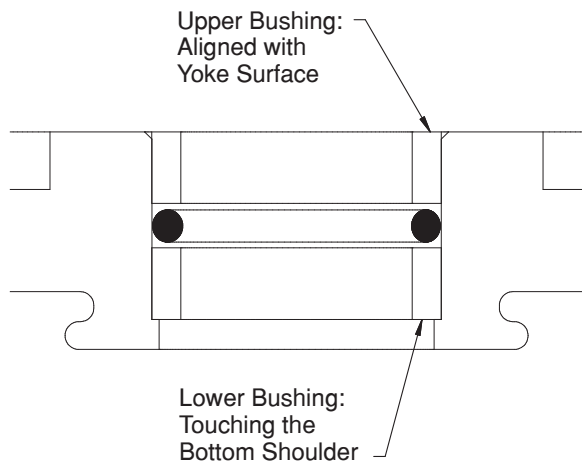

Figure 4 – Assembling the Stem Bushings
- Assure that all internal parts are completely clean before starting to assemble. Apply the proper lubricant to the cylinder wall. If the bushings have been removed, lubricate the external side of the replacement bushings. Press the new lower stem bushing into the yoke until it touches the bottom shoulder. Press the upper stem bushing until it is aligned with the top of the yoke (see Figure 4).